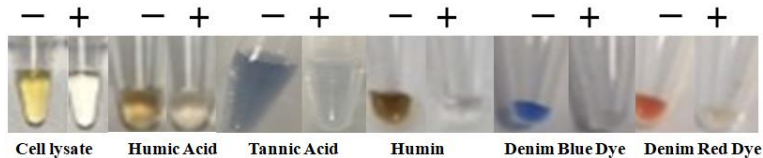

Fig.1 PCR inhibitor removal
**BcMag™ One-Step Bacteria DNA Purification Kit** allows rapid, column-free extraction of genomic DNA from microorganisms, such as Gram-positive or Gram-negative bacteria. The kit uses our unique proprietary magnetic beads and buffers to efficiently lyse cells and remove all impurities simultaneously in an aqueous buffer, leaving the DNA untouched. The procedure employs mild lysis conditions, avoiding harsh conditions such as alkaline lysis and toxic chemicals for lysing cells to maintain DNA integrity and the time-consuming cleanup of organic solvent from the sample. Furthermore, the magnetic beads eliminate PCR inhibitors (Fig.1) from samples in a single step without DNA extraction. It increases DNA integrity, boosts nucleic acid yields, and minimizes DNA loss caused by typical DNA purification techniques' time-consuming "bind-wash-elute" procedure. Following sample lysis, the straightforward one-step purification technique enables simultaneous processing of >96 samples and produces pure DNA in less than 30 minutes. Purified genomic DNA has the highest integrity and can be used in various downstream applications such as qPCR.